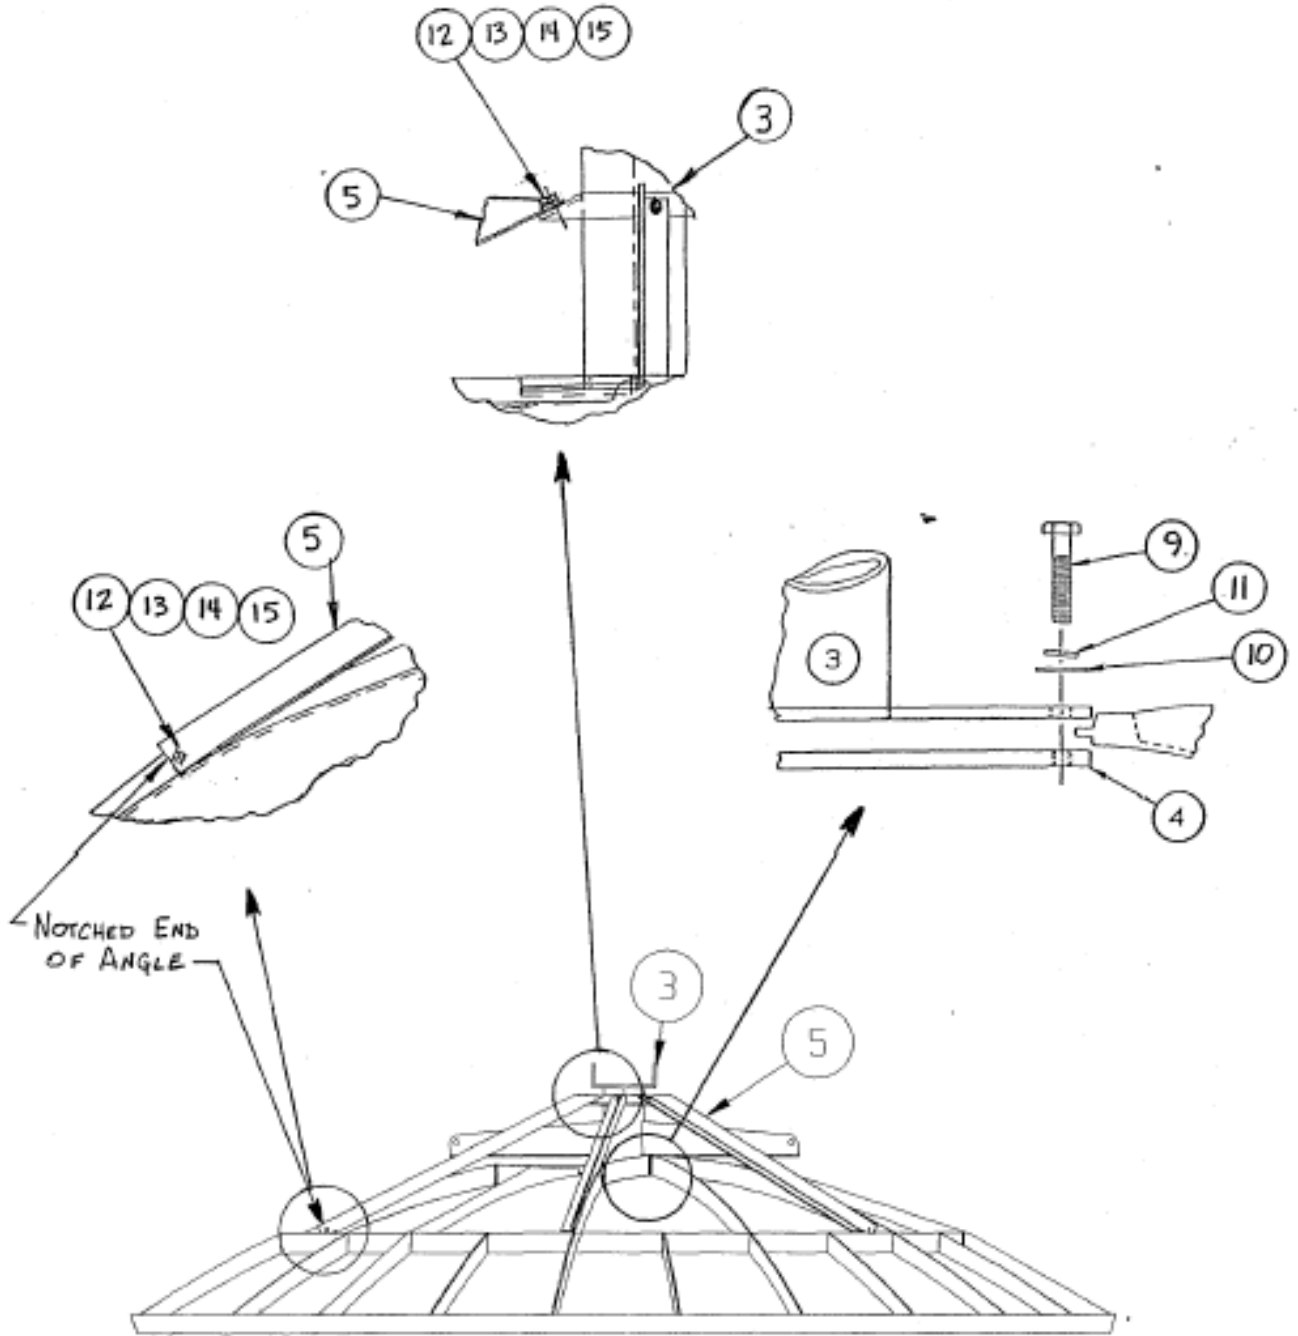

FIGURE 2.3-1
2. Place the polar hub (item #3) on the center of the two petals, and attach the center plate (item #4) to the front with the 1/4 hardware (item #'s 9,11,10) as shown in figure 2.3-1. Do not tighten this hardware now; leave it loose enough to rotate the hub in the reflector.
1. Attach one of the angle braces (item #5) to the hub as shown in figure 2.3-1 with 3/8" hardware (item #12,13,14,15). Note that the notched end of the angle goes toward the reflector.